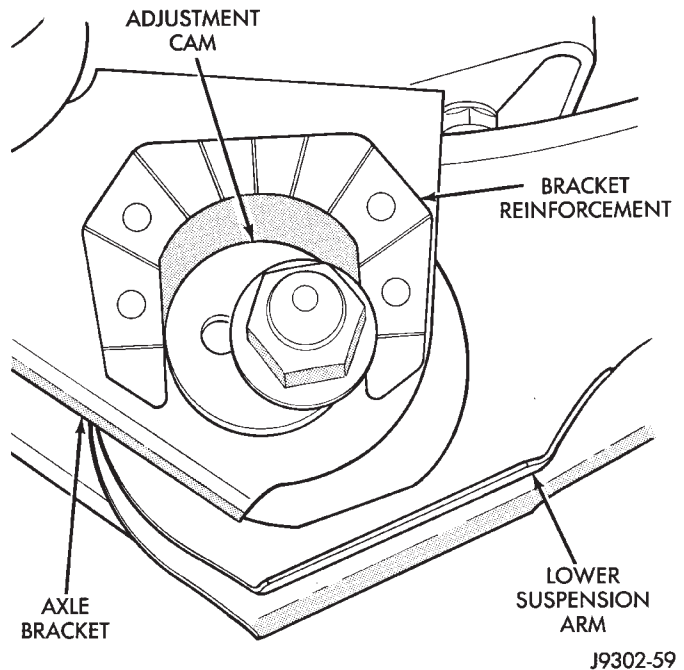

Fig. 6 Cam Adjuster
(1) Raise and support the vehicle.
(2) Paint or scribe alignment marks on the cam adjusters and suspension arm for installation reference (Fig. 6).
(4) Remove the nut and bolt from the frame rail bracket and remove the lower suspension arm (Fig. 6).
(1) Position the lower suspension arm at the axle bracket and frame rail bracket.
(2) Install the rear bolts and finger tighten the nuts (Fig. 6).
(3) Install the cam bolt, cam and nut in the axle. Re-align the reference marks.
(4) Install the bolts and finger tighten the nuts (Fig. 6).
(5) Lower the vehicle.
(6) Tighten the front and rear nuts to 176 N•m (130 ft. lbs.) torque.
(1) Raise and support the vehicle. Position a hydraulic jack under the axle to support it.
(2) Paint or scribe alignment marks on the cam adjusters and axle bracket for installation reference (Fig. 6).
(3) Mark and disconnect the front propeller shaft from the axle.